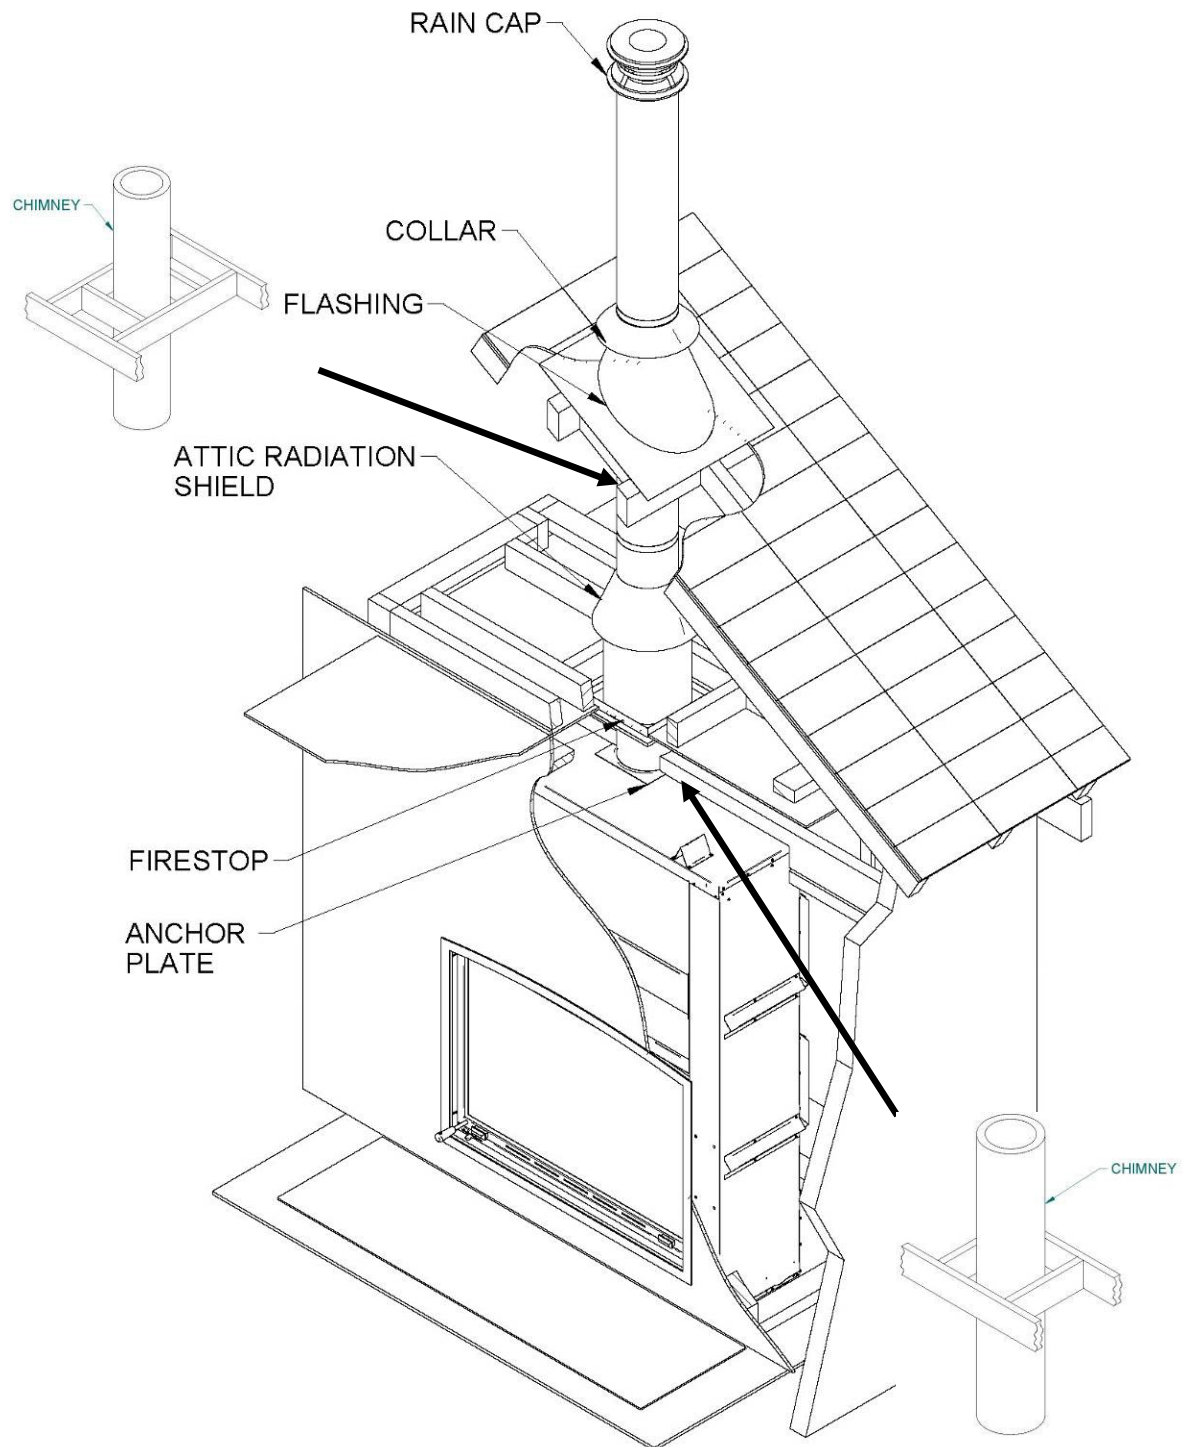

Figure 30
2. From below, install a firestop supplied by the chimney manufacturer in each ceiling/floor separation through which the chimney will pass. At the attic level, install an attic radiation shield from above (**see Figure 30**).
3. Follow the chimney's manufacturer's instructions and place the first chimney length on the fireplace. For all chimneys, you must use an anchor plate supplied by the chimney manufacturer before installing the first chimney length (**see Figure 30**). Continue installing chimney lengths making sure to lock each length in place according to the chimney manufacturer's instructions. In many cases, it is recommended to secure connections with three (3) ½" (12 mm) metal screws.
5. Then, put the roof flashing in place and seal the joint between the roof and the flashing with roofing pitch (**see Figure 30**). For sloping roofs, place the flashing under the upper shingles and on top of the lower shingles. Nail the flashing to the roof, using roofing nails.